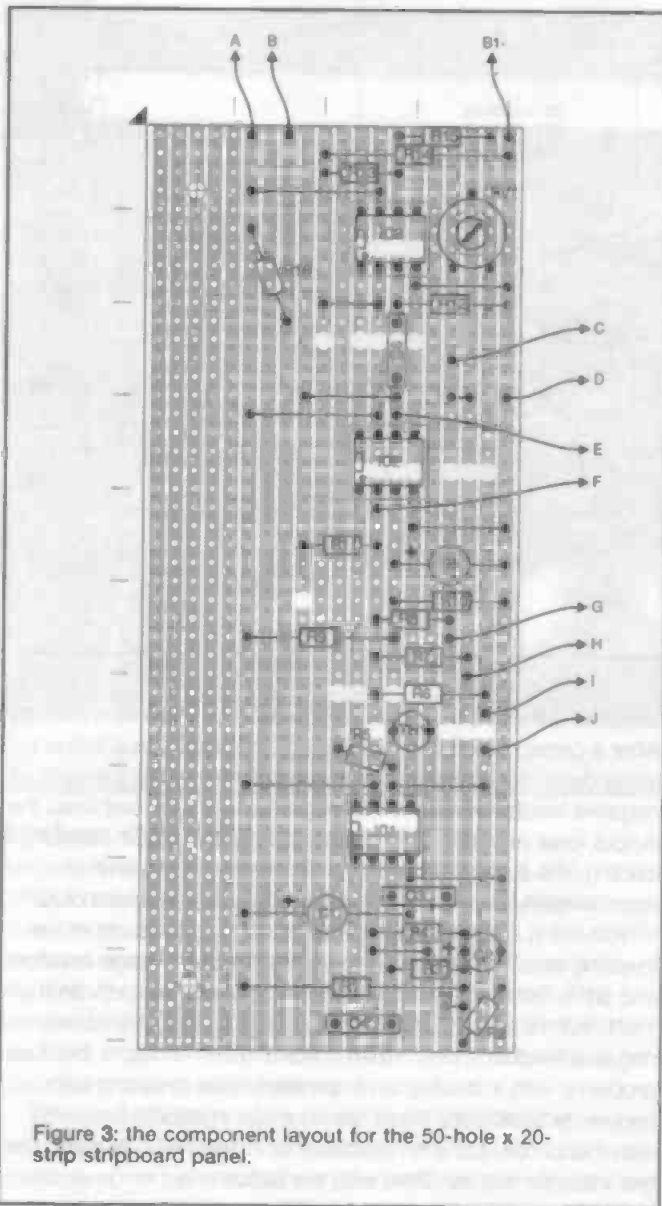
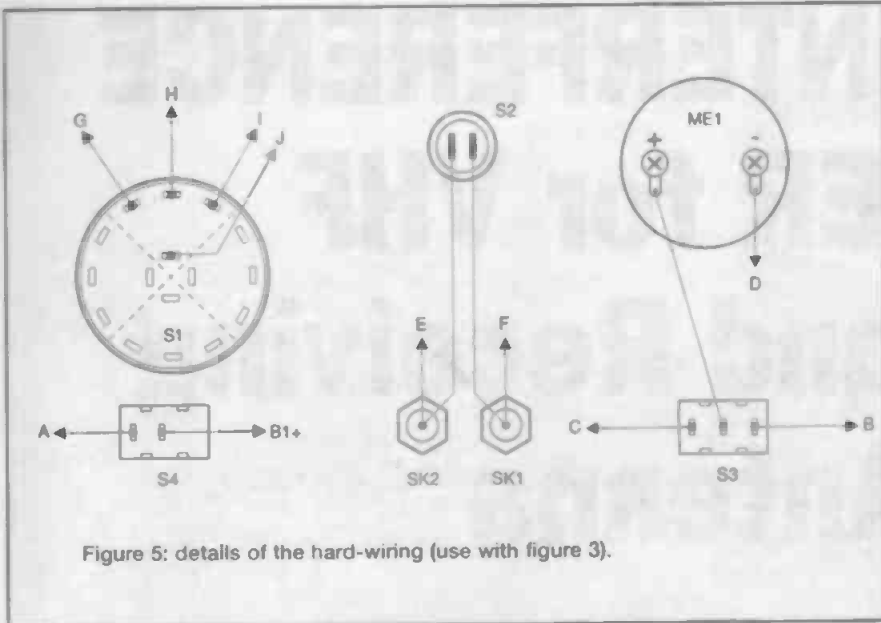

Figure 3: the component layout for the 50-hole x 20-strip stripboard panel.
Figure 5: details of the hard-wiring (use with figure 3).
This circuit is simple enough for stripboard construction, and a suitable layout is provided in figures 3 and 4. These respectively show the component and copper side views of the
Details of the hard wiring are provided in figure 5, which should be used in conjunction with figure 3 (for example, point "A" in figure 3 connects to point "A" in figure 5). This wiring is straightforward and should not present any problems. S1 is a standard three-way four-pole rotary switch, but in this circuit only one pole is used and 12 of its tags are left unconnected. The battery pack consists of eight HP7 (AA) size cells fitted in a plastic holder. There is just about enough space for the batteries inside the case, but the holder will probably have to be fixed to the rear panel or top of the case using double-sided adhesive pads. Do not simply leave the battery pack rattling around inside the case, as it would probably damage thermistor TH1. Connections to the battery holder are via an ordinary PP3 size battery clip.